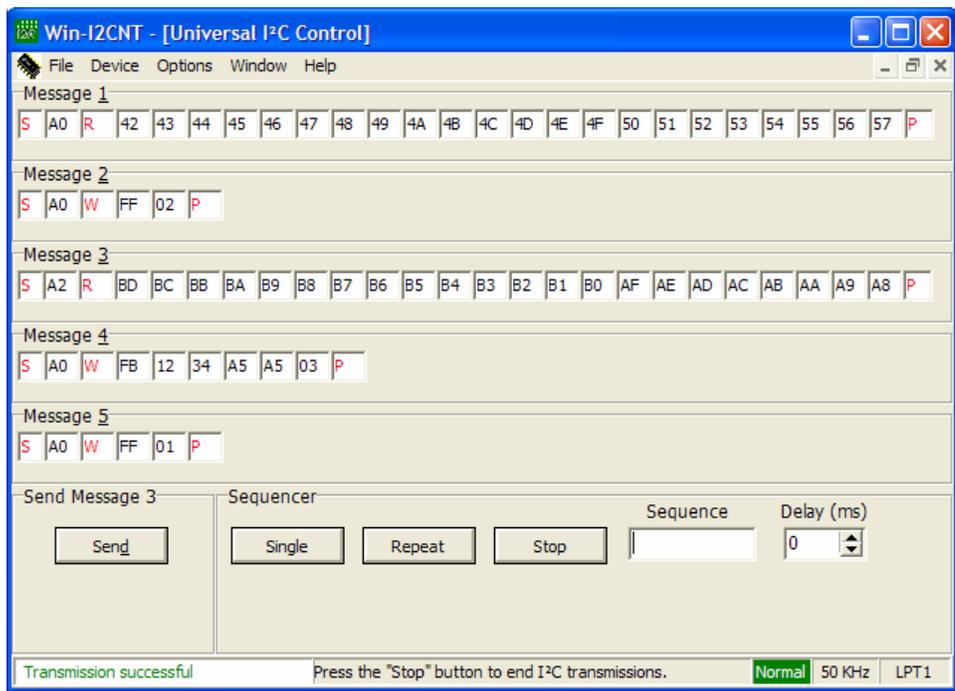

Figure 3. Entering Download Mode
2. To protect Page 0, send the command S A0 W FF 02 P via I²C (see Message 2 in Figure 3).
1. To unprotect the page, send the command S A0 W FB 12 34 A5 A5 03 P via I²C (see Message 4 in Figure 3).
3. To erase Page 0, send the command S A0 W FF 01 P via I²C (see Message 5 in Figure 3).